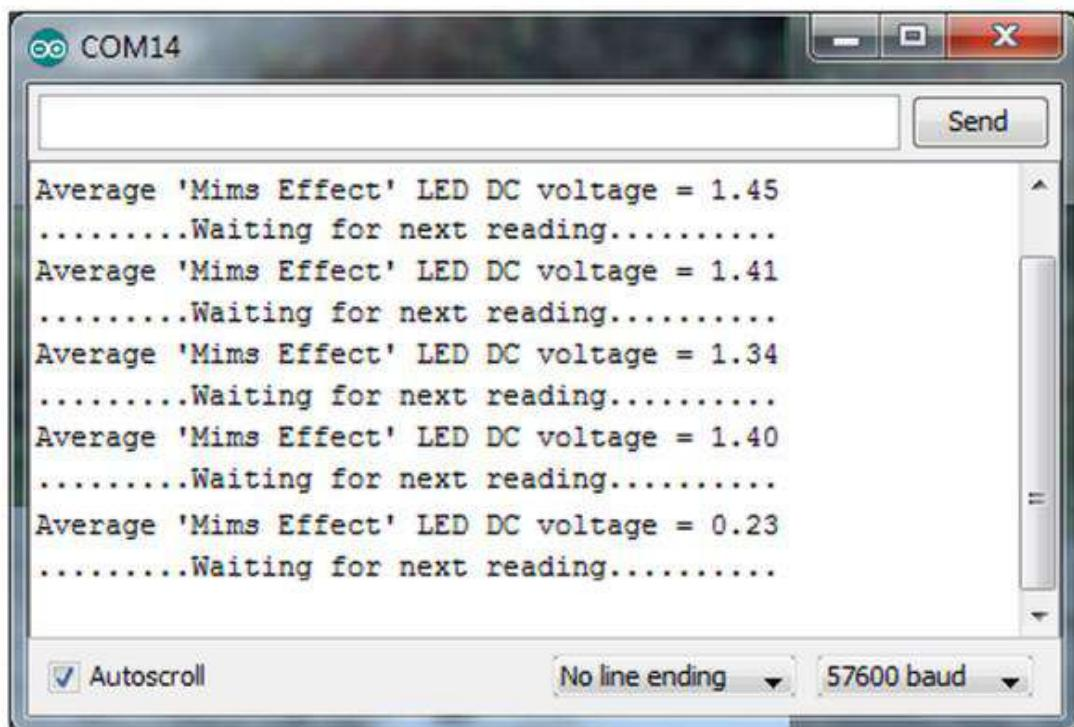

FIGURE 5B: SERIAL MONITOR OUTPUT
2. Connect the programming/power USB cable, run the Arduino IDE, load sketch and open Serial Monitor window (see Figure 5b).